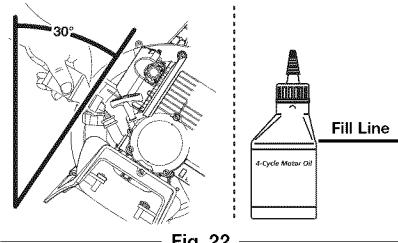

Fig. 22
- Tilt the unit 30° to the side (Fig. 22).
NOTE: Use the bottle and spout saved from initial use to measure the correct amount of oil. The top of the label on the bottle measures approximately 3.04 ounces (90 ml) (Fig. 22). Check the level. See *Checking the Oil Level*. If the level is low, add a small amount of oil and recheck. Do not overfill.